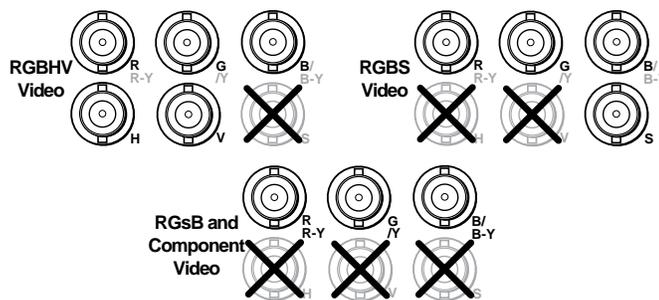

Figure 2-8 — BNC output connections for RGBHV, RGBS, RGsB, and component video
- ⑥ **Program video output BNC connectors** — Connect an RGB or component video display to these female BNC connectors. Figure 2-8 shows how to connect the various video formats.